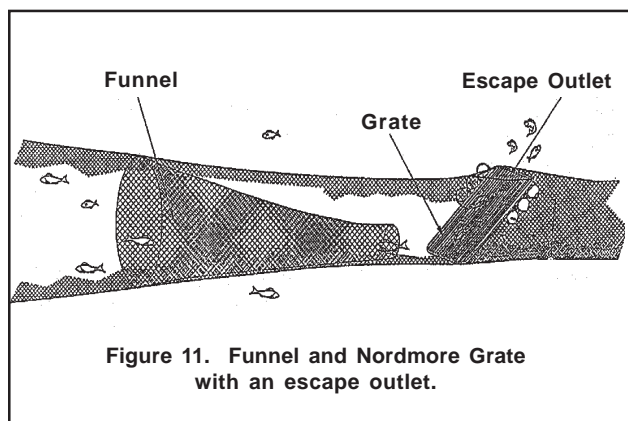

Figure 11. Funnel and Nordmore Grate with an escape outlet.
48. USED?: Record whether an excluder or separator device (see Figure 11) is used on this gear by placing an "X" next to the appropriate code:
- 01 = Nordmore Grate (see Figure 11).
on this gear by placing an "X" next to the appropriate code (see Figure 11):